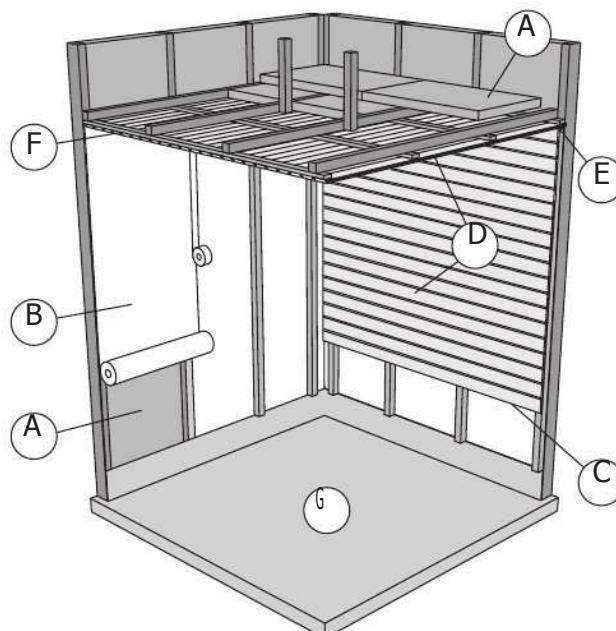

Figure 4.
2.1. Sauna Room Structure (figure 4)